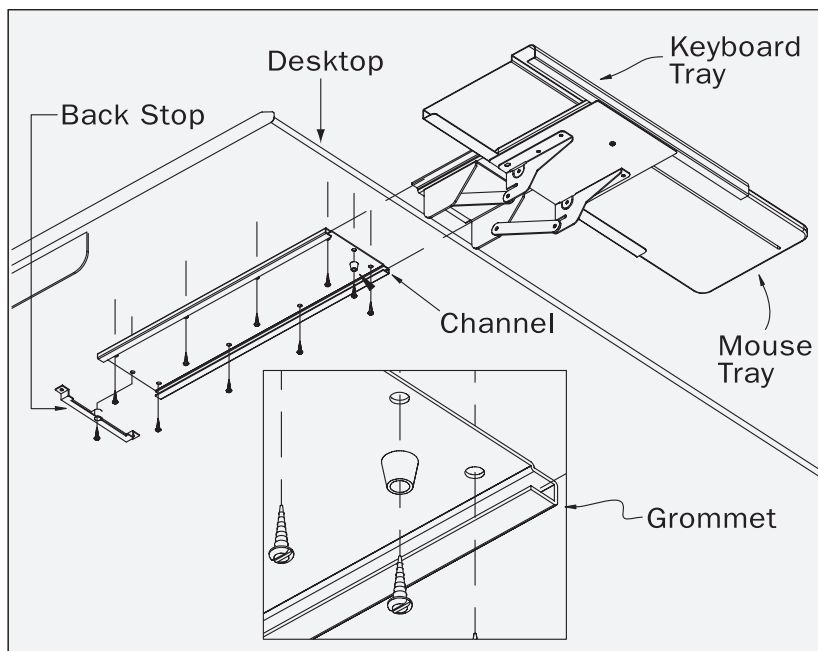

Fig. 15
- Mount Channel under Desktop using (8) Phillips Head Screws (Fig.15).